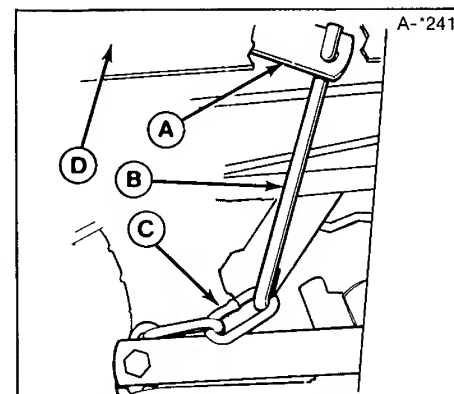

Figure 3. Installing Lift Link (seen from right-hand side)
4. Insert the lift link (B, figure 3) into the hole from the left side then pivot back and down. Slip the lift chain (C) onto the lift link (B).